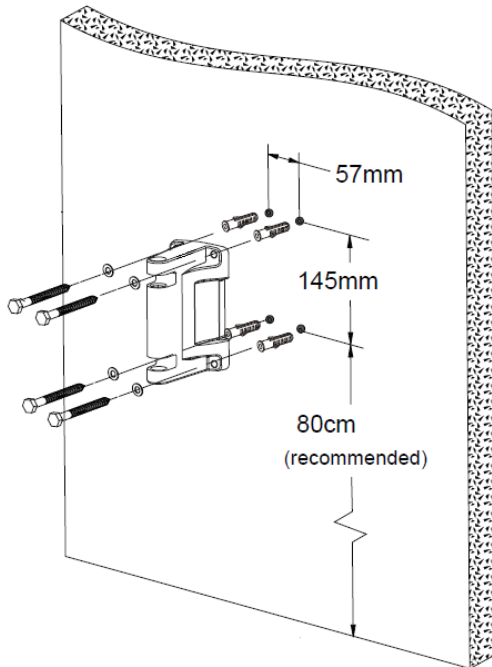

Fig. 4a
- Use the bracket (5) as a template to mark the drilling position with marker. It is recommended that the lower holes are 80cm above the floor. (see Fig. 4a)